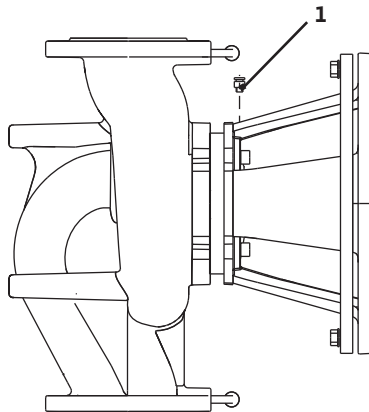

Fig. 34: Bleed valve
- Bleed the pumps by releasing the bleed valves (Fig. 34, Item 1). Dry running destroys the mechanical seal of the pump. The differential pressure sensor must not be bled (risk of destruction).